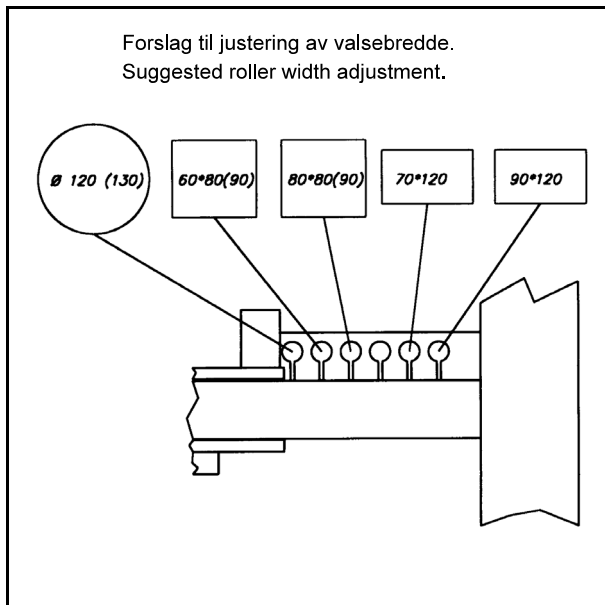

Fig. 9-1
- c) Sometimes it can be necessary to move the width between the rollers while wrapping. This is most common when wrapping bad shaped and loosely pressed bales. If the machine has problems rotating the bale, you can move the rollers in or out with the **ROLLER OUT** or **ROLLER INN** with the control box while wrapping. Suggested roller width adjustment, (see fig. 9-1).